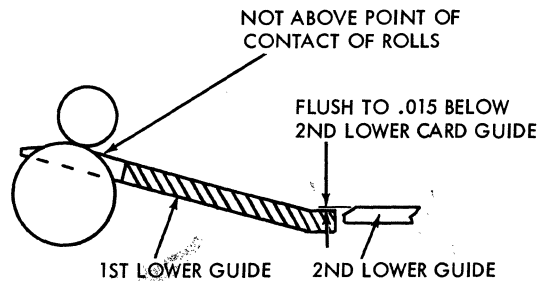

Figure 3-24. First to Second Lower Card Guide Alignment
2. First lower card guide must not be above point of contact of first upper and lower feed rolls. See Figure 3-24.
4. Trailing edge of first lower card guide should be flush to .015" below leading edge of second lower card guide. See Figure 3-24.